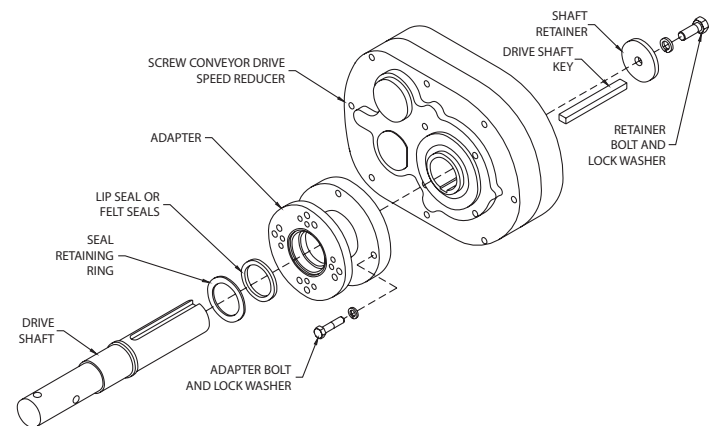

Figure 1 - Screw Conveyor Drive
2. Position adapter on reducer output hub so that small end (end with 12 holes) rests on the reducer. Select the four mounting holes to match the shaft used (see Figure 1).
- Position adapter on reducer output hub so that small end (end with 12 holes) rests on the reducer. Select the four mounting holes to match the shaft used (see Figure 1).
Below 15 RPM output speed, oil level must be adjusted to reach the highest oil level plug. If reducer position is to vary from those shown in Figure 1, either more or less oil may be required. Consult Dodge.